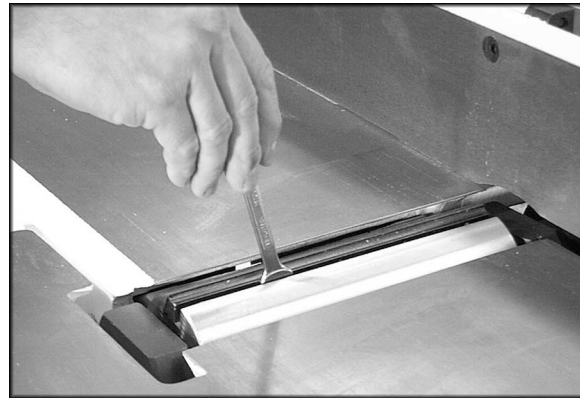
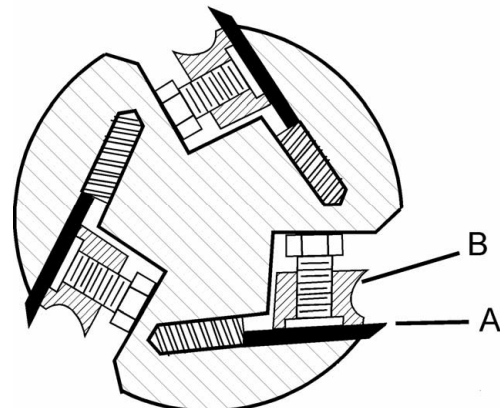

Figure 21
Figure 22
3. Loosen the lock screws (Fig. 21). Note: Loosen screws by turning in a clockwise direction as viewed from the infeed table. Carefully remove the knife (A, Fig. 22), and the lock bar with screws (B, Fig. 22). Repeat for the other two blades.